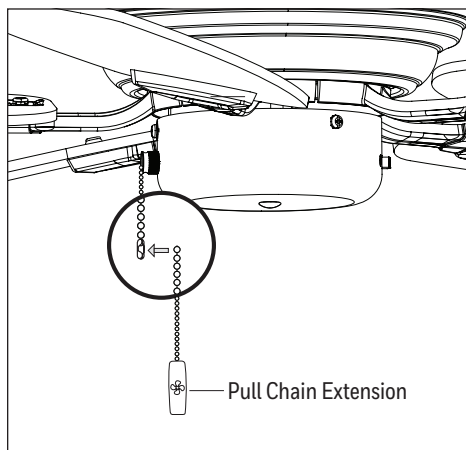

Figure 2.12
12. Attach the pull chain extensions to the pull chain (Figure 2.12).